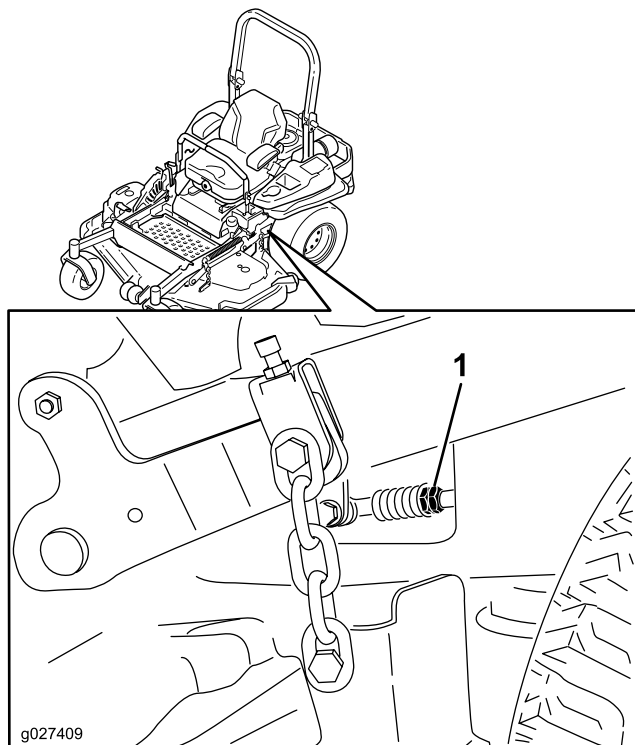

Figure 84
- Bring the motion-control levers into the neutral position. Adjust pump control rod lengths by rotating the double nuts on the rod in the appropriate direction until the wheels slightly creep in reverse (Figure 84). Move the motion-control levers to the reverse position and while applying slight pressure to the lever allow the reverse indicator springs to bring the levers back to neutral. The wheels must stop turning or slightly creep in reverse.